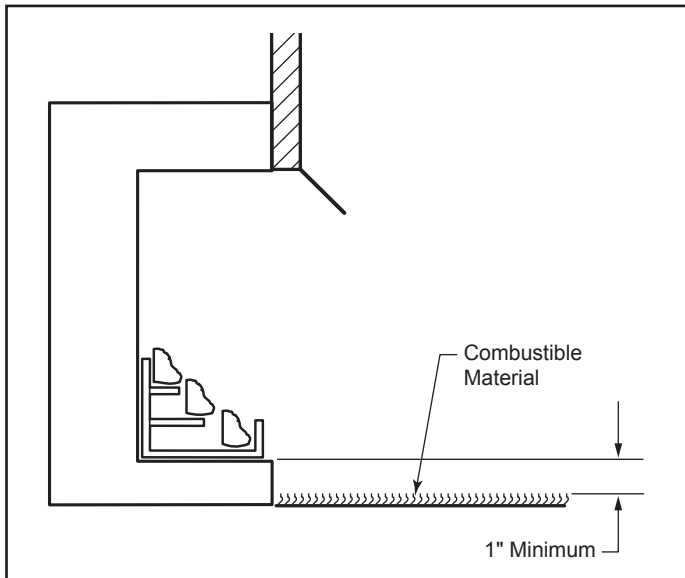

Figure 6.4 Minimum Clearance Above Combustible Flooring
**5. Floor clearance:** This inner chamber firebox floor must be installed at least 1" above any combustible flooring material, such as carpeting or asphalt tile, which is closer than 14" to the base of the firebox. See Figure 6.4.